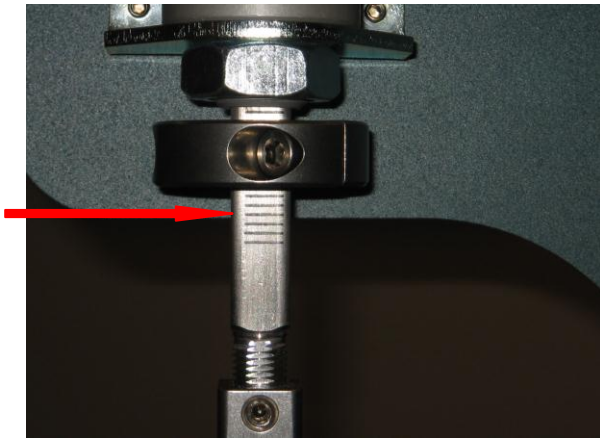

Figure 3
- The graduations on the cylinders represent approximately 0.144 on an inch in diameter change. (**Figure 3**)
- Re-adjust the stop collars to the desired opening you need and tighten the bolts. (**Figure 3**)